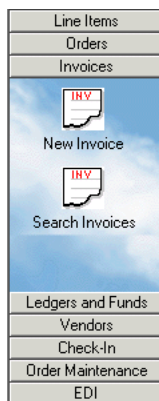

Figure 12-1. Invoice Buttons
- **New Invoice** button (Figure 12-1) to access the **New Invoice** dialog box (Figure 12-2).
- **Search Invoices** button (Figure 12-1) to access the **Search Invoices** workspace (see Figure 12-3).